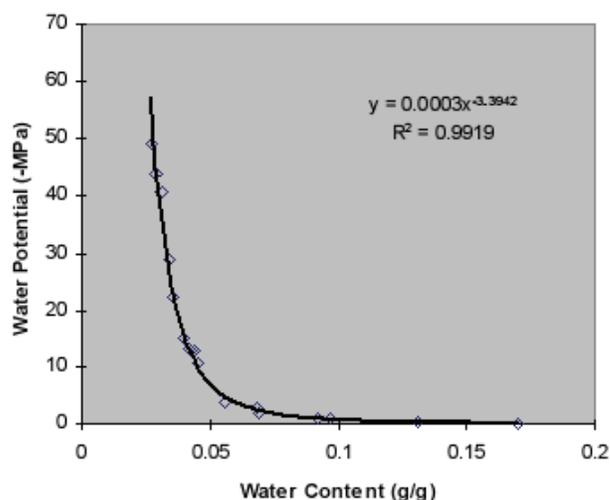

Figure 1 Sample moisture release curve for Walla Walla silt loam using the WP4C Dewpoint PotentialMeter*
9. The resulting data can then be plotted in a spreadsheet as shown in Figure 1.